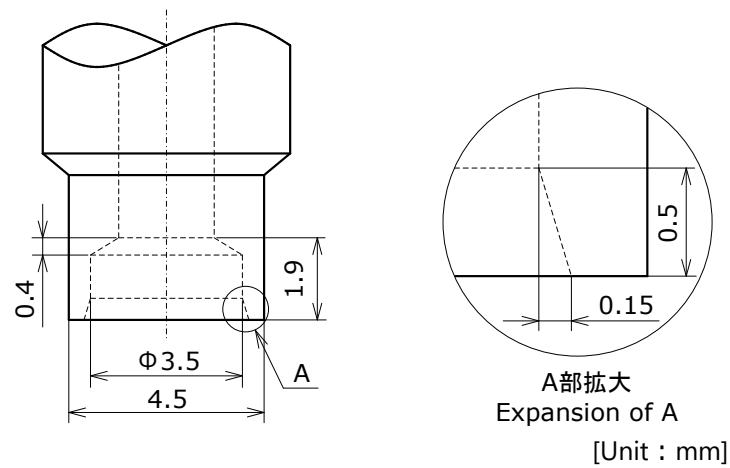

Figure 2. Recommended Nozzle Dimensions
1. When selecting/designing the pick-and-place nozzle, it is important to make sure that there is absolutely no contact between the nozzle and the lens. Ensure proper clearance by taking into consideration the dimensional tolerance of the nozzle and the dimensional tolerance of the LED lens. Nichia's 519 series can be used with the pick-and-place nozzle shown in Figure 2.